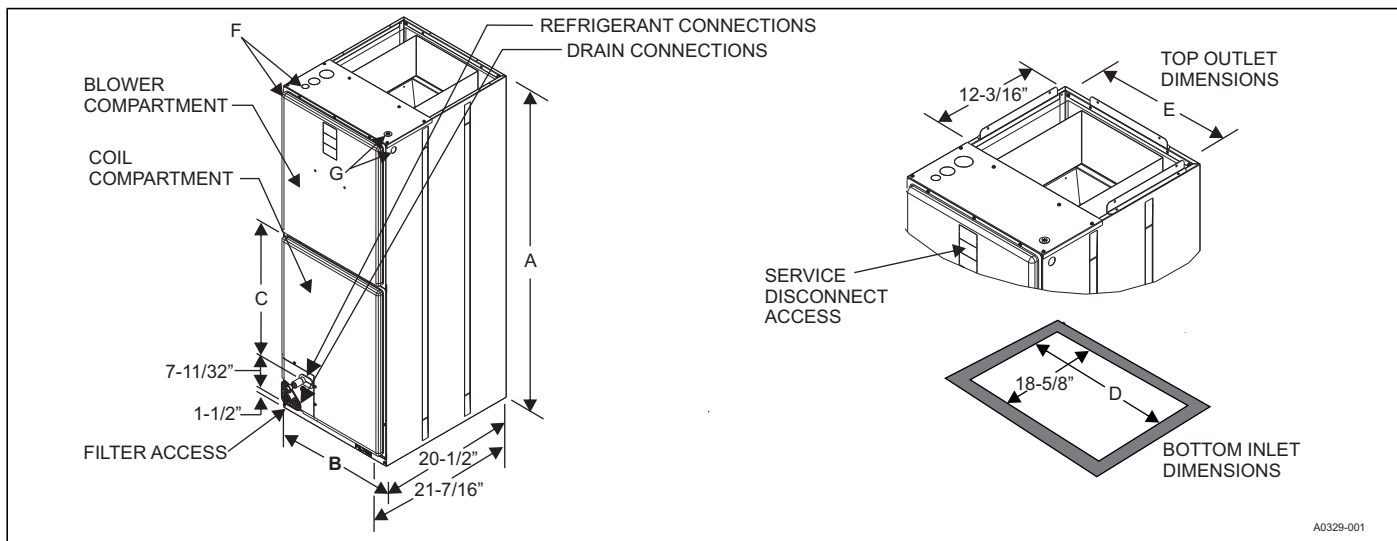

FIGURE 4: Dimensions & Duct Connection Dimensions
6. The unit rating plate displays the air handler model number. The unit dimensions for the supply air plenum are provided in Figure 4 and Table 1 of this Instruction Manual. The plenum must be installed according to the instructions.
1. The size of the unit should be based on an acceptable heat loss or gain calculation for the structure. The ACCA – Manual J or other approved methods may be used. Reference Figure 4 and Table 1.